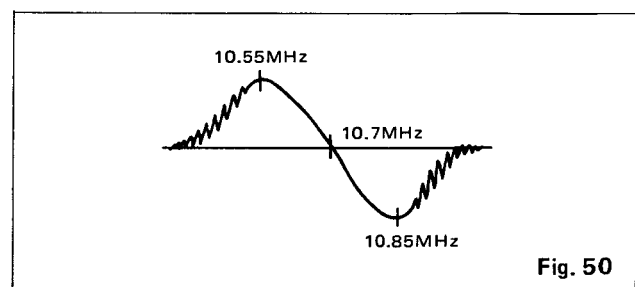
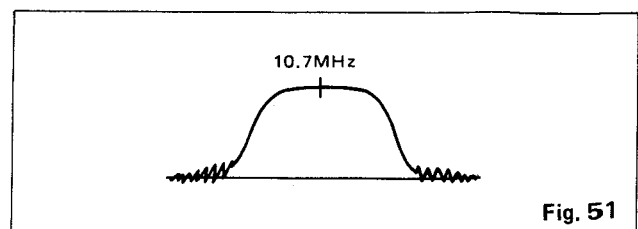

Fig. 50
Fig. 51
1. After obtaining an S-curve such as shown in Fig. 50 by rotating the T808 core, continue rotating it until the 10.7MHz marker arrives at the top of the waveform, as illustrated in Fig. 51.
2. By rotating cores T801, T805, and T807 alternately, obtain the maximized waveform which is vertically symmetrical and of which the 10.7MHz marker exists at the center (see Fig. 51).
4. Rotate the T808 core again to obtain an S-curve which is vertically symmetrical and widest in oscillation width. (see Fig. 50)